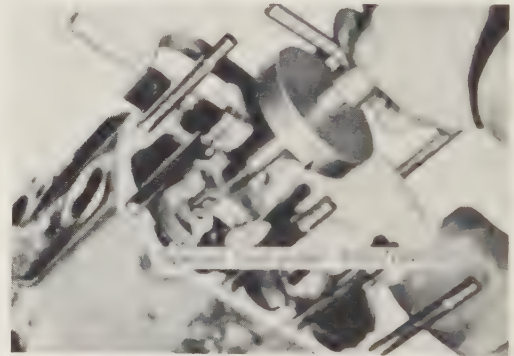

Fig. 1.19. Using a special tool-puller to remove the cylinder liner (not 1600 engines)
- Remove the cylinder liners. Fig. 1.19 shows them being removed using a special tool, but on the engine we dismantled, the liners were removed by turning the crankshaft, and the pistons pushed the liners up enough to enable them to be withdrawn by hand. Remove the cylinder liner gaskets and keep the gaskets and liners of each cylinder together. Mark the flanges of the liners to ensure that they can be refitted in their original position.